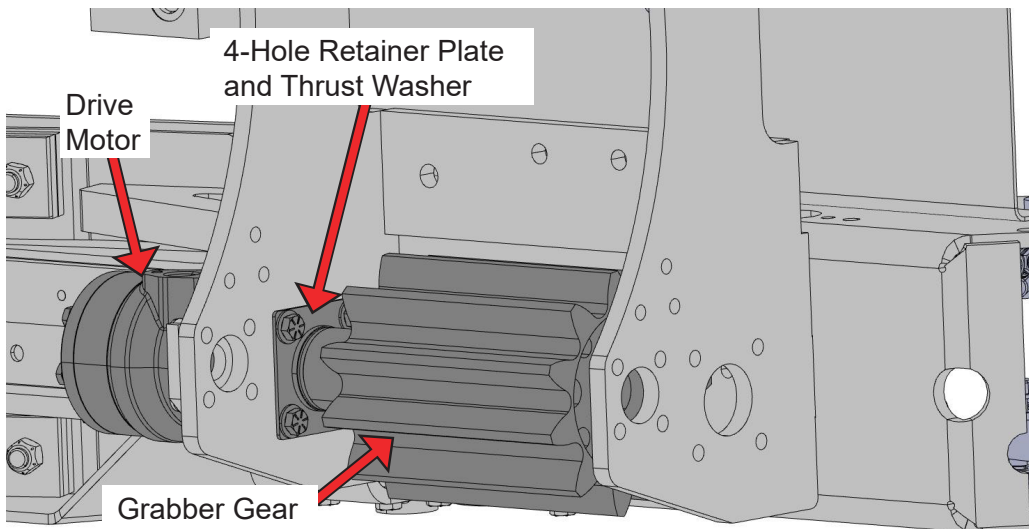
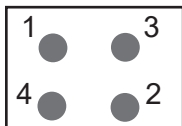

Figure 14
Figure 16
6. Use a torque wrench with a 9/16" socket to tighten the bolts to 44 ft.-lbs. Do this in a crisscrossing tightening pattern (Figure 16).
7. Repeat Steps 4-6 on the remaining three (3) bolts of this motor and again for the other motor and its (4) bolts.
8. Install the grabber gear onto the drive motor spline (Figure 14).
14. Use a torque wrench with a 9/16” socket to tighten the bolts to 51 ft.-lbs. Do this in a crisscrossing tightening pattern (Figure 16).